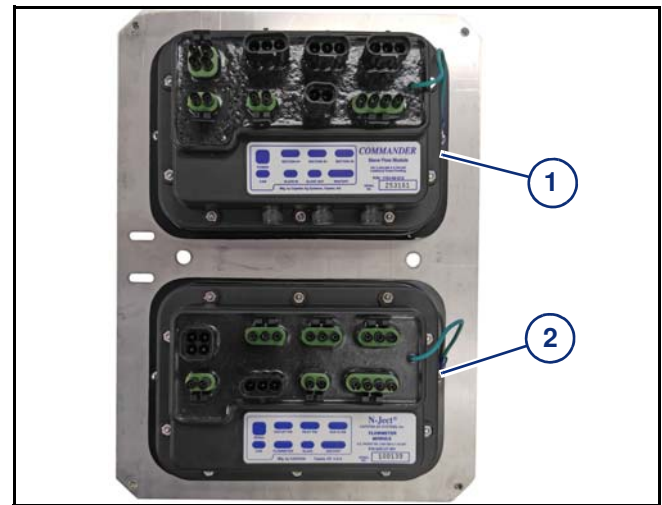

Figure 2
**[Figure 2]** - The slave flow module (1) and flow meter module (2) are contained in an electronic module enclosure located on the implement near the N-Ject® manifold.